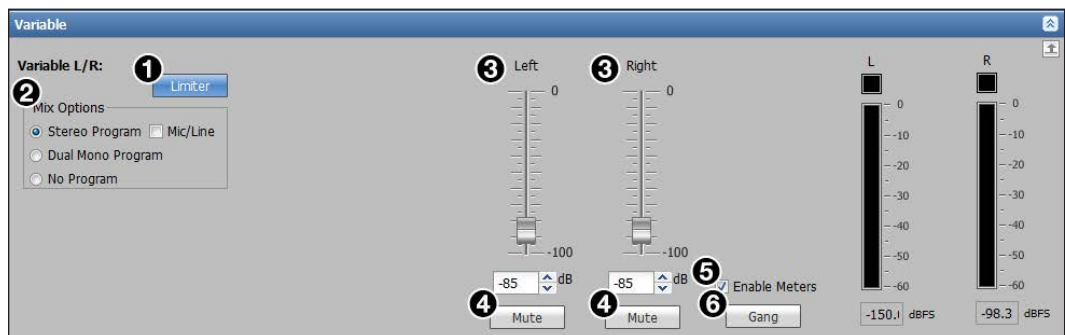

Figure 76. Variable Analog Audio Output Section
3. In each **Mix Options** panel (see **figure 76, 2**, on page 108) click the desired radio button. The two outputs can be mixed together (see the table below).